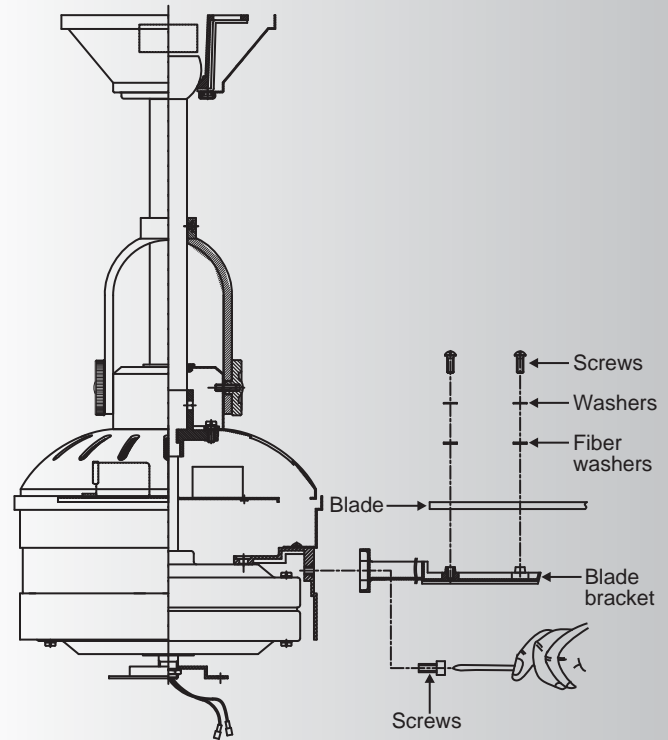

Fig. 16
Step 1. Place a blade on the blade bracket. Attach the blade to the bracket using the screws, metal washers and fiber washers provided. (Fig. 16)
Step 2. Attach each blade assembly to the motor using "Pre-Installed" mounting screws on each blade bracket. (Fig 16)